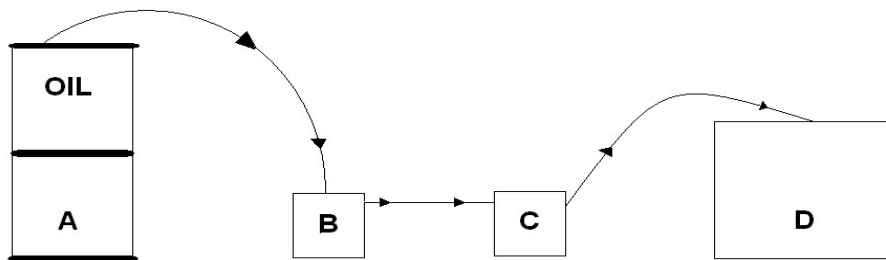

Figure 2
- To fill the pumping unit, use exclusively the oils indicated in the table on the next page or equivalent. The environmental conditions must be considered before purchasing oil. To transfer the oil from the container to the tank use an external filter as shown in Figure 2 preventing the introduction of foreign material or liquids at the time of filling.